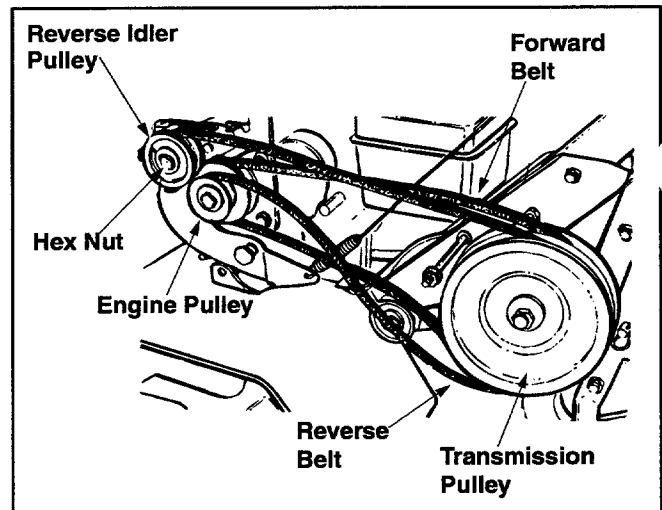

Figure 14
- Remove the hex nut which secures the reverse idler pulley to the idler bracket. Slide idler pulley out and remove the belt. See Figure 14.